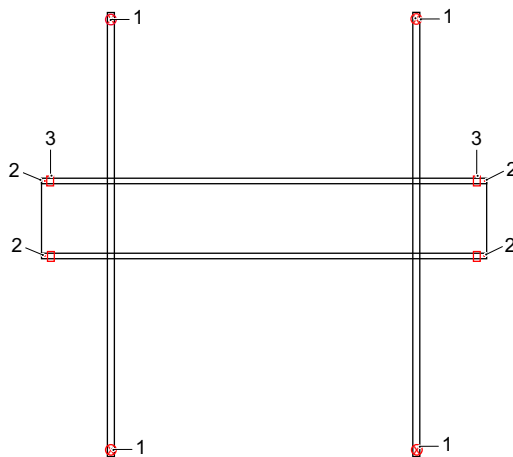

Fig. 4-14 Overview rubber/adjustable end stop
**Fig. 4-14** shows positions for the adjustable end stops, only 2 adjustable end stops are needed, positioned on the same rail or diagonally in relation to each other.